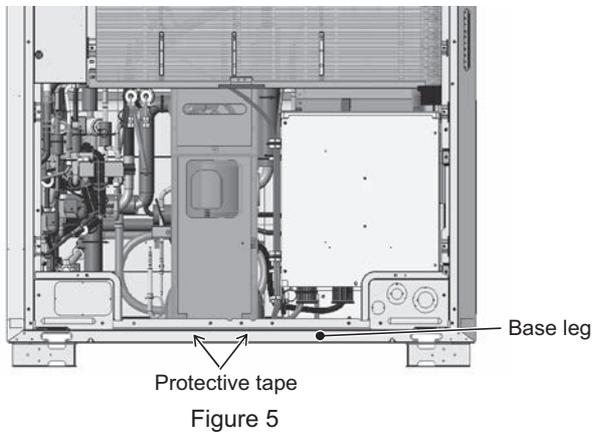

Figure 5
- (8) Place the excess weak and strong electrical wirings in the space at the base legs as shown in Figure 5 to keep them from being caught during maintenance work.